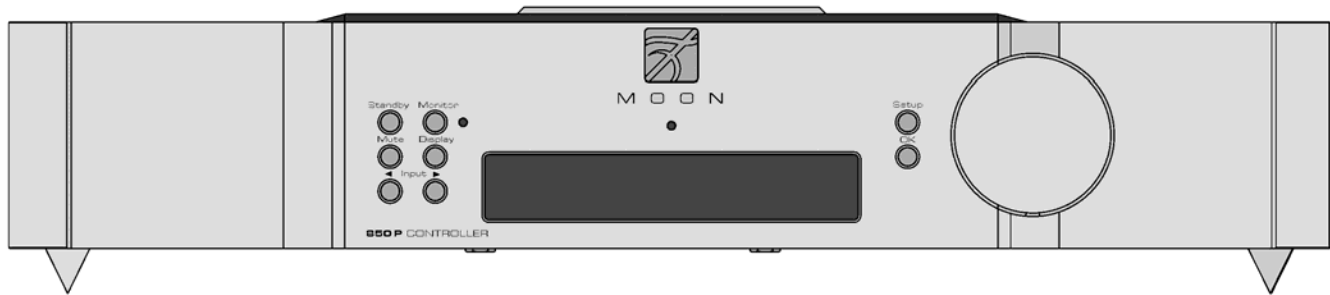

Figure 2: Front panel of MOON 850P dual-mono Controller
The front panel will look similar to Figure 2 (above). The large display window normally indicates the current volume level and, whenever you change the input, it will briefly show the selected input. On the left side of the display window, are six (6) buttons. On the right side of the display are two (2) more buttons and a large rotary volume control, for a total of eight (8) buttons which are all described in detail below: